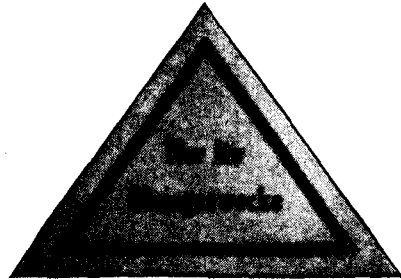

Figure 90.—“Only for practice purposes.”
(2) *Examples.*—Set forth below (figs. 90 to 101, incl.) are some typical labels for small-arms ammunition.